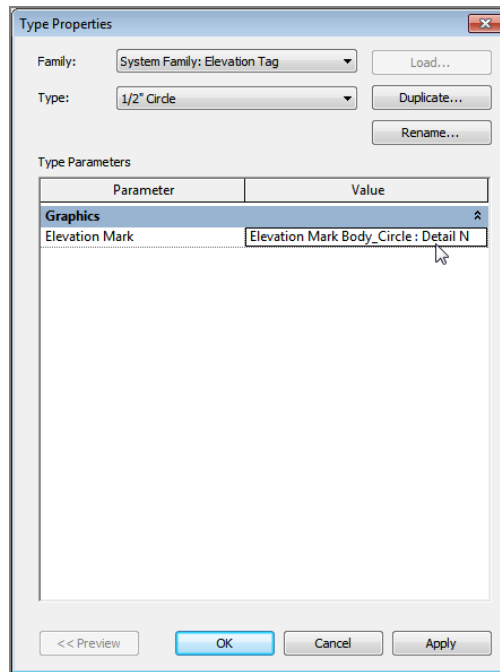

FIGURE 3.85: Modifying the properties for the elevation markers
2. At the top of the Type Properties dialog, you see Family: System Family: Elevation Tag. Below that is Type. Change Type from 1/2" (13mm) Square to 1/2" (13mm) Circle (see Figure 3.85).